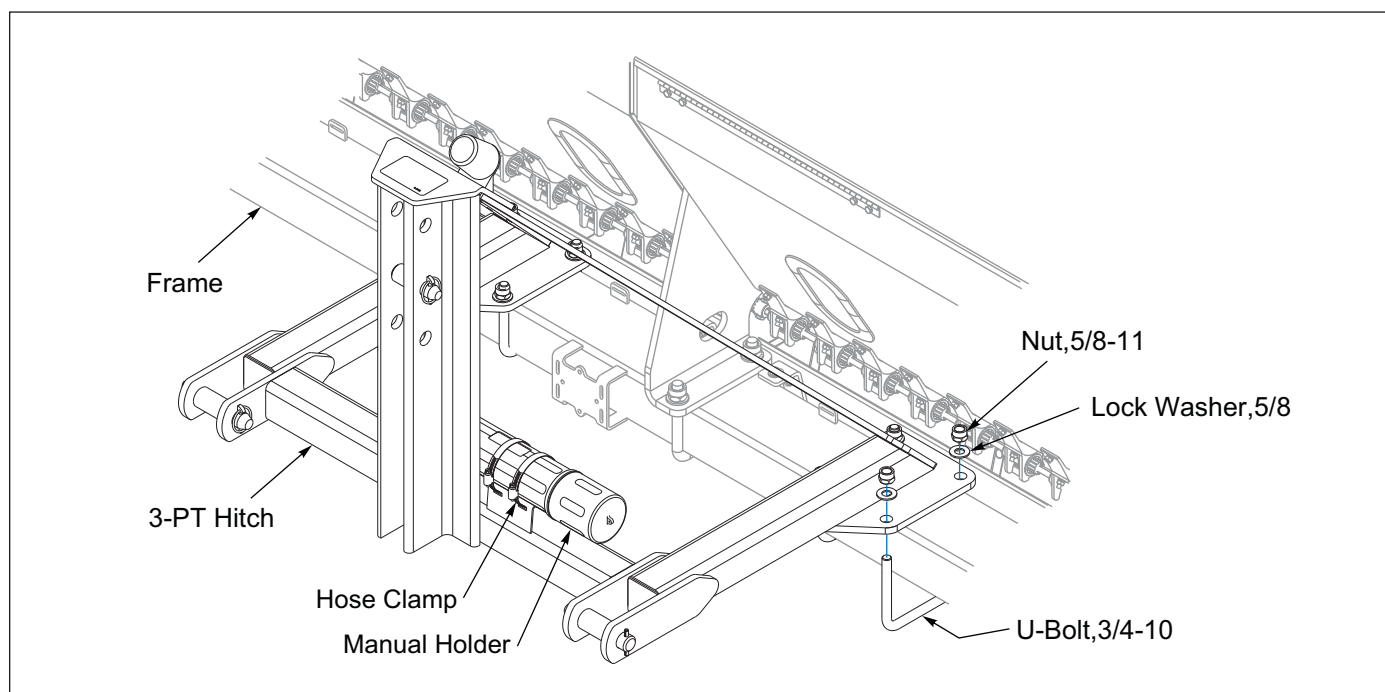

Figure 2-3: Attach 3-PT Hitch
2. Center 3-PT Hitch Assembly in relationship with the Seed Box Center Bracket. Attach 3-PT Hitch to Seeder Frame Tube with 5/8-11 U-Bolts, Lock Washers, and Nuts. **See Figure 2-3.**